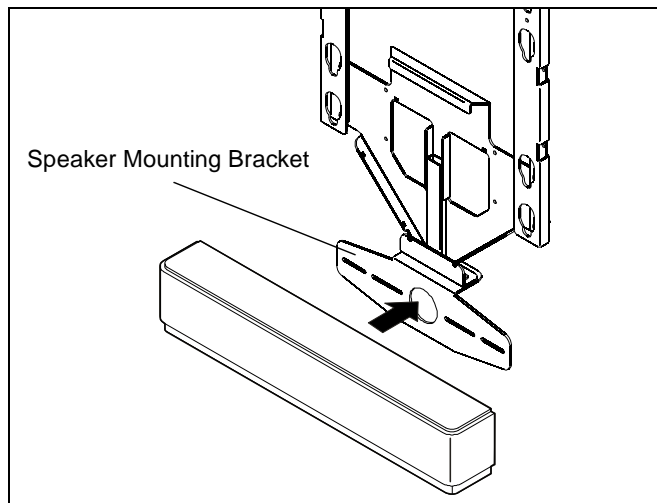

Figure 4
4. Mount speaker to speaker mounting bracket following the instructions provided with speaker. (See Figure 4)